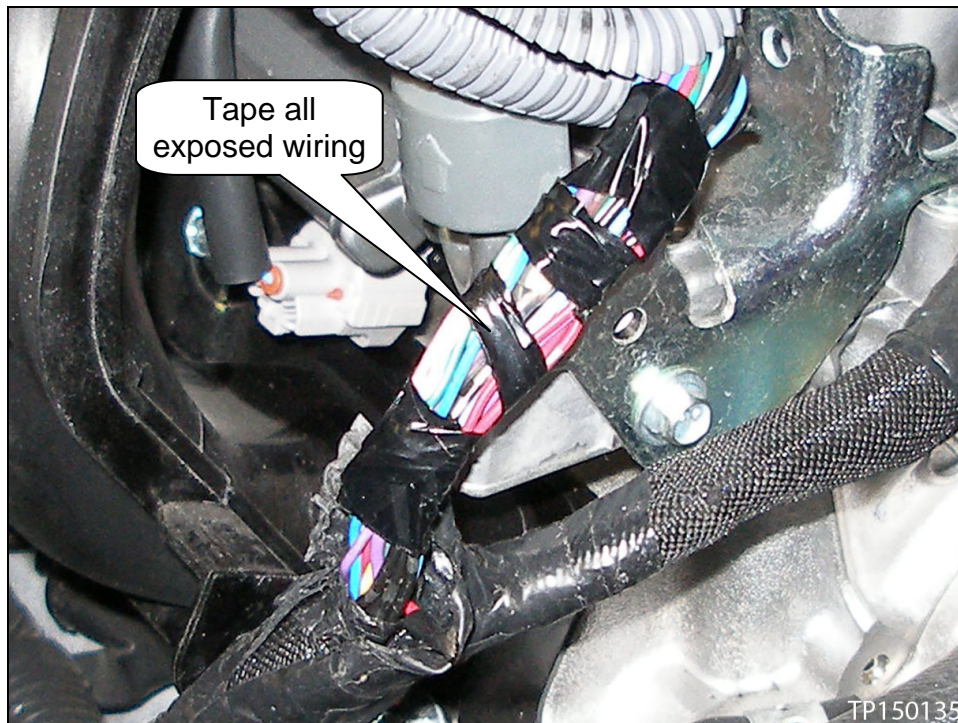

Figure 6
14. Wrap suitable electrical tape around all exposed wiring (see Figure 6).